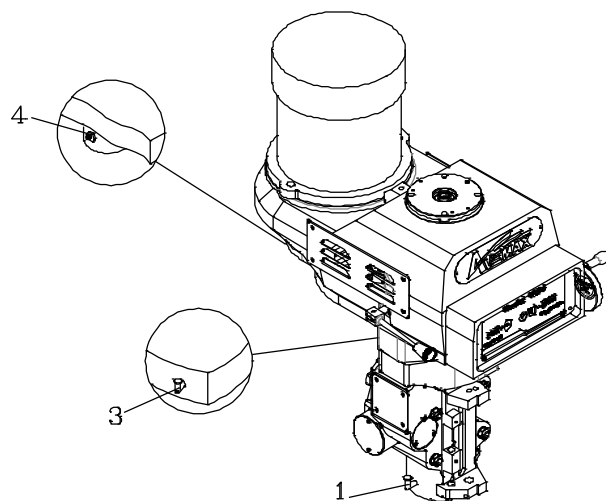

Fig. 8-1
8.4.1 Lubrication of Head (Fig. 8-1)